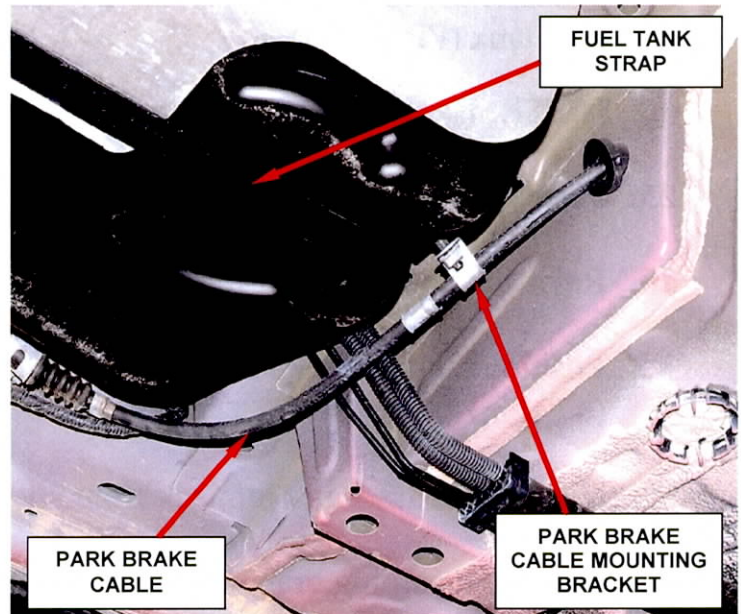

Figure 9 – Park Brake Cable (Left Side Shown)
20. Remove and save the parking brake cable mounting brackets from the fuel tank straps (Figure 9).
30. Install the parking brake cable brackets to the fuel tank straps (Figure 9).